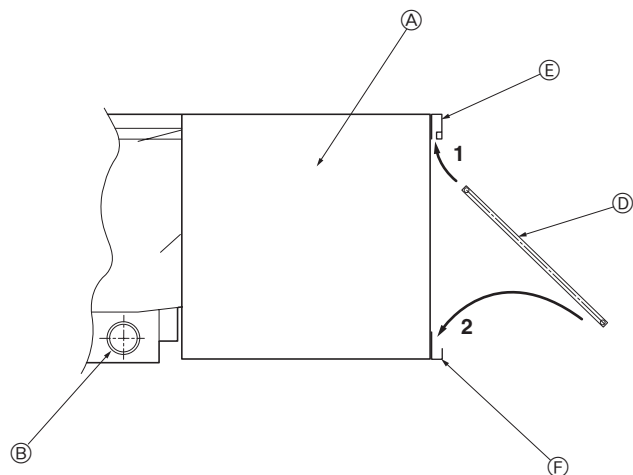

Fig. 9-4
9.4. Filter installation points (Rear air intake) (Fig. 9-4)